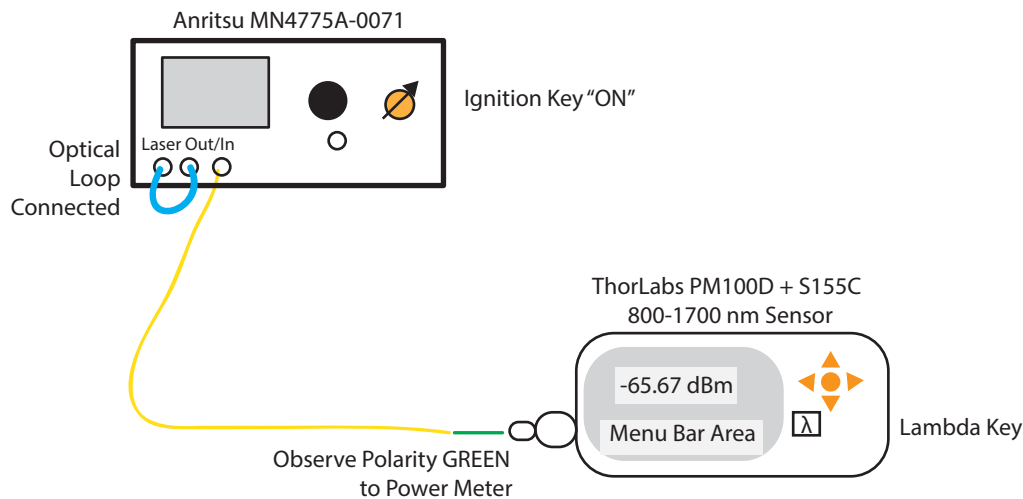

Figure 3-51. Optical Power Measurement – 1310 nm Configuration
- a. Connect PM100D OPM to E/O Converter Output via Optical Cable as shown in Figure 3-51.